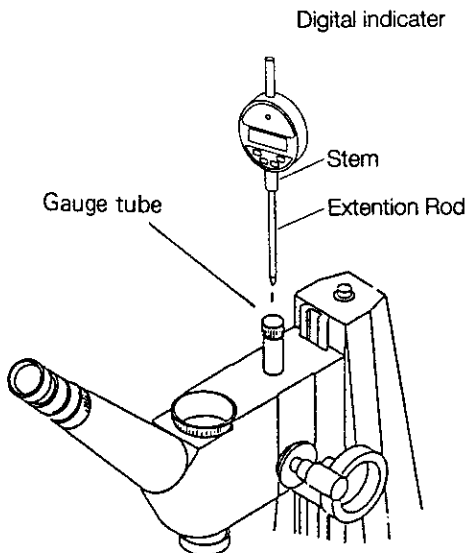

Fig. 16
- Attach the extension rod to the Stem before inserting it into the microscope. (Fig. 16)
- Insert the Digital indicator into the gauge tube on the top of the microscope body and clamp with the knurled lock ring. (Fig. 16)